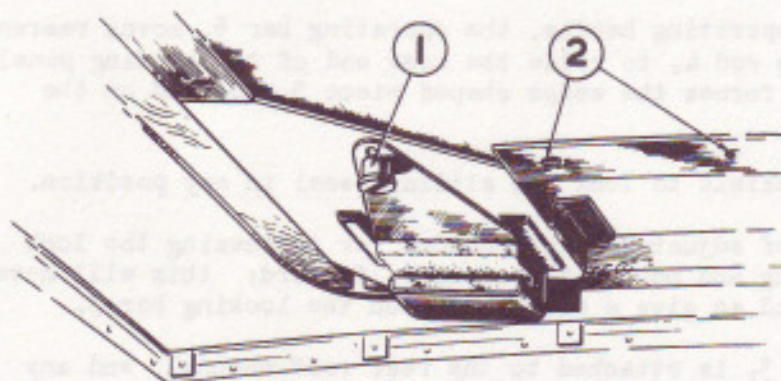

FIG. 19. THE FRONT SLIDES.
- (v) Slide the roof panel forward to the closed position, and remove the two special headed screws, one at each front corner as illustrated in 1, Fig.19. Afterwards, ease front slide brackets outwards to clear slide, by inserting screwdriver through the holes in the trim pad.
NOTE:- Fig.19 illustrates one of the front slide brackets with the trim pad removed for clarity.
- (c) Roof rattles are usually due to metal to metal contact between the trim panel fasteners and the holes in the support panel (2, Fig.19). In such case, a cure can be effected by cementing a $1\frac{1}{2}$ " strip of baize to cover all the fastener holes, a small hole being punched with a bradawl, or similar tool, through the baize in the centre of the fastener holes. On refitting the trim panel, the baize will fold back in the holes and prevent the metal to metal contact.